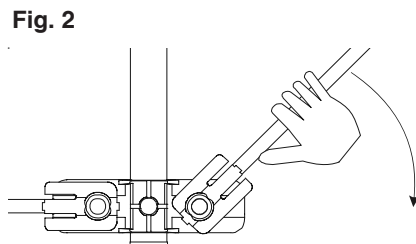

Fig. 2
STEP 3. Unfold all other elements until they lock into place. Be sure the elements are locked into position and are flat and parallel to each other. See Figure 2.